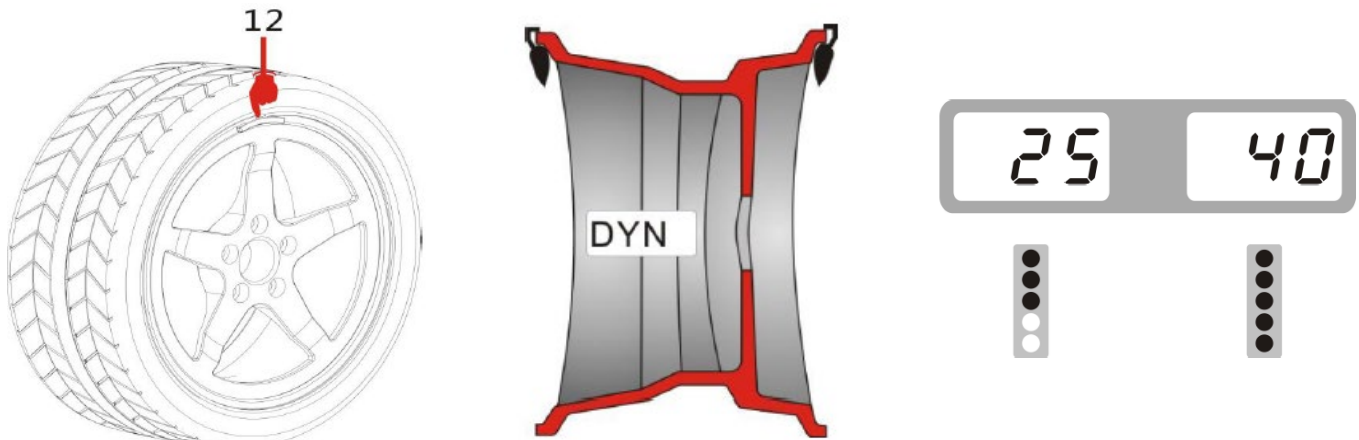
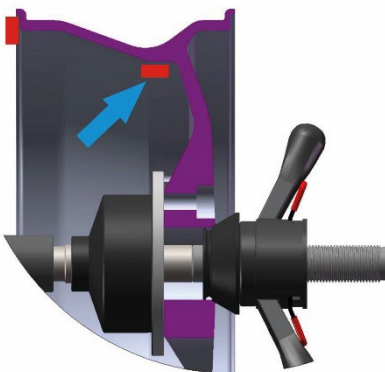

fig.4
fig. 4.1
4. Rotate the wheel by hand. As soon as all LEDs of the position indicator outside light up, the weight can be attached to the outside Fig.4 or in ALU-1 mode Fig. 4.1.